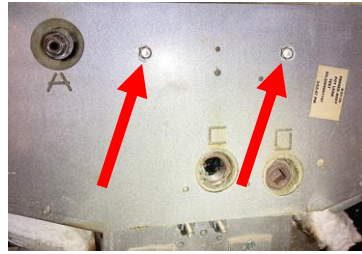

Figure 49
50. Attach the upper cover with the two (2) center screws first (see Figure 49).